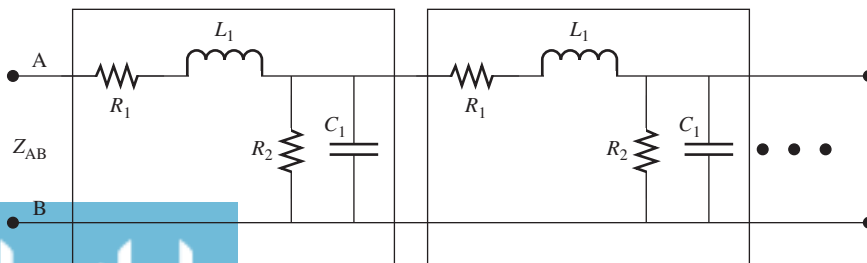

FIGURE P6.31 Circuit for Problem 6.31.
6.31 (H) Find the impedance, Z_{AB} , as seen from terminals A and B in the circuit shown in Figure P6.31.